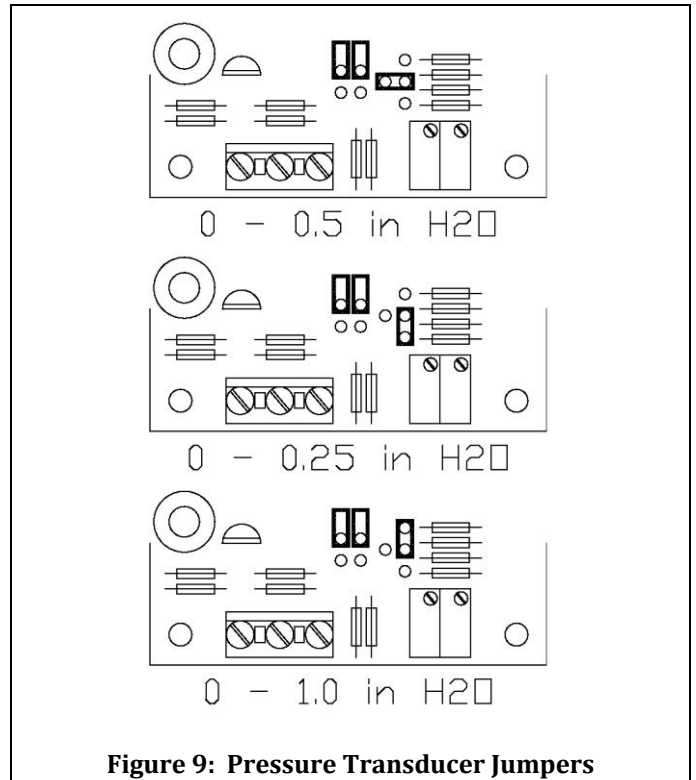

Figure 9: Pressure Transducer Jumpers
- 6) Verify that the jumpers on the pressure transducer are installed correctly, per Figure 9. The default pressure transducer output range is 0 to 0.5 in. H₂O.